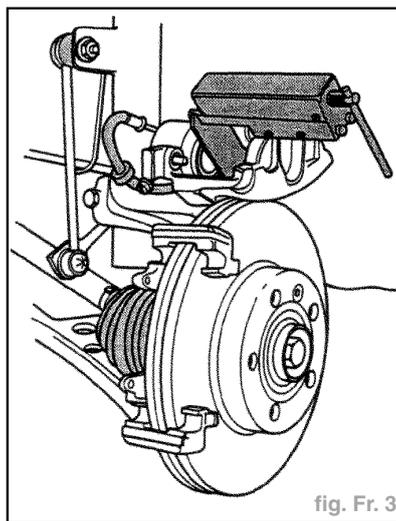

fig. Fr. 3
- Repousser le piston (fig. Fr. 3).